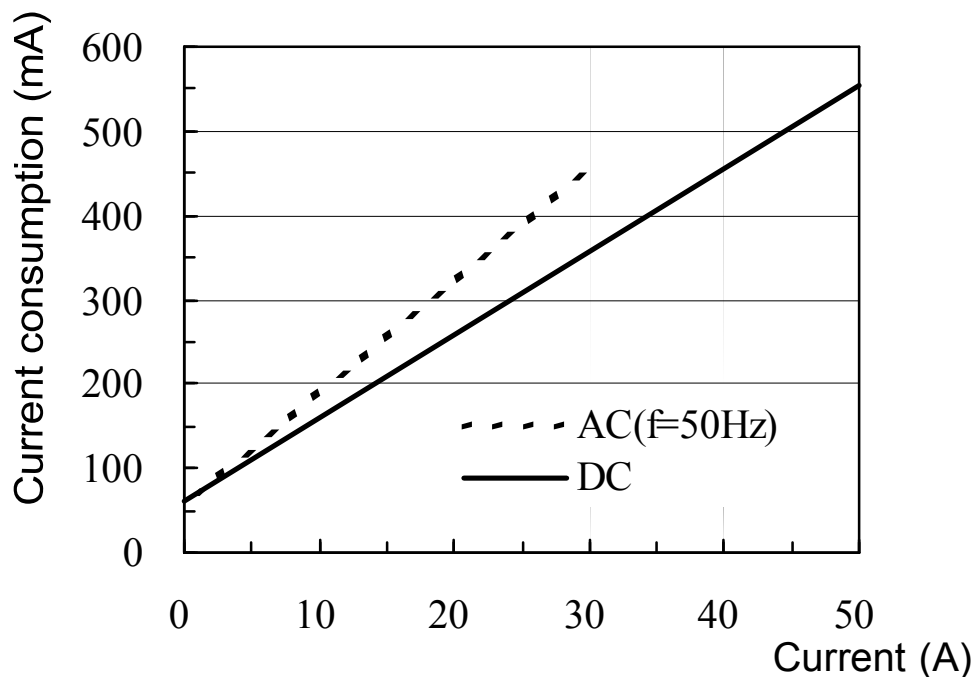

Fig.1
- The current consumption of clamp-on probes depends on the current to be measured. Confirm that the total current consumption of the clamp-on probes does not exceed the rated output current of the 3272. See Fig. 1.